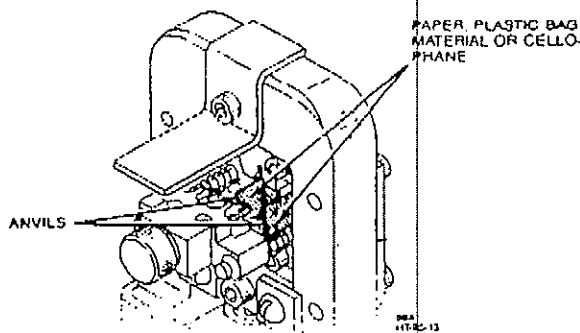

Figure 11
4. Cut out two strips of protective material. Then fold the strips in half and place them over the anvils (see figure 11).